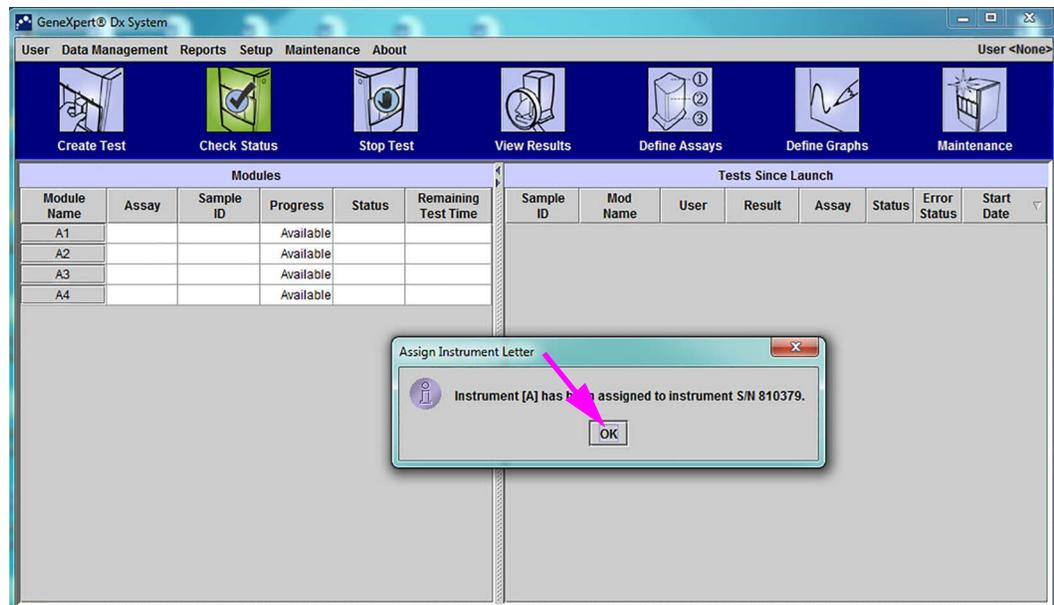

**Figure 2-50. GeneXpert Dx System Shortcut Icon**
- On the Windows desktop, double-click the **GeneXpert Dx** icon (see Figure 2-50).